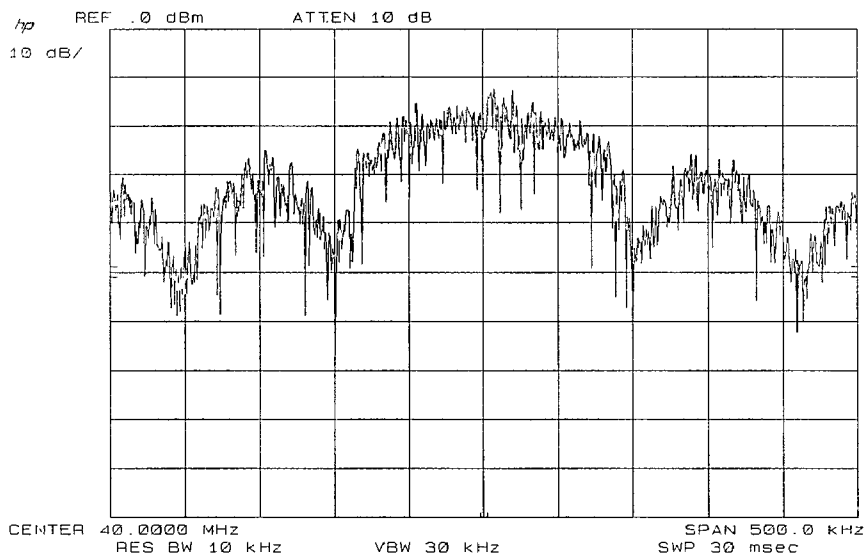

Figure 2-8. PM QPSK Modulated Carrier
9. When the RF output signal is displayed on a spectrum analyzer, it should be as shown in Figure 2-8.